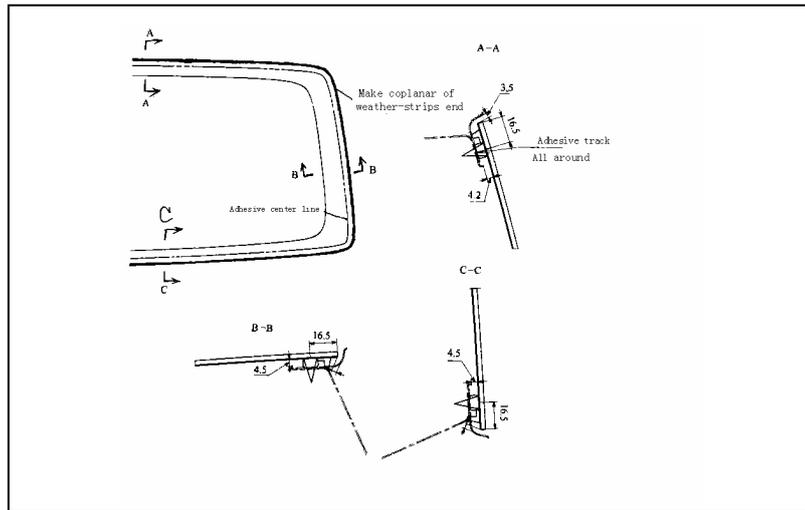

Fig. 19-27
- ① Clean and degrease the surface of tail door glass where to be applied adhesive and to be attached dual lock fastener.
- ② Install the weatherstrip according to the following sequence: Both side Weather-strip, Upper weather-strip upper, Lower weather-strip, location and relations installed is shown in Fig. 19-27.